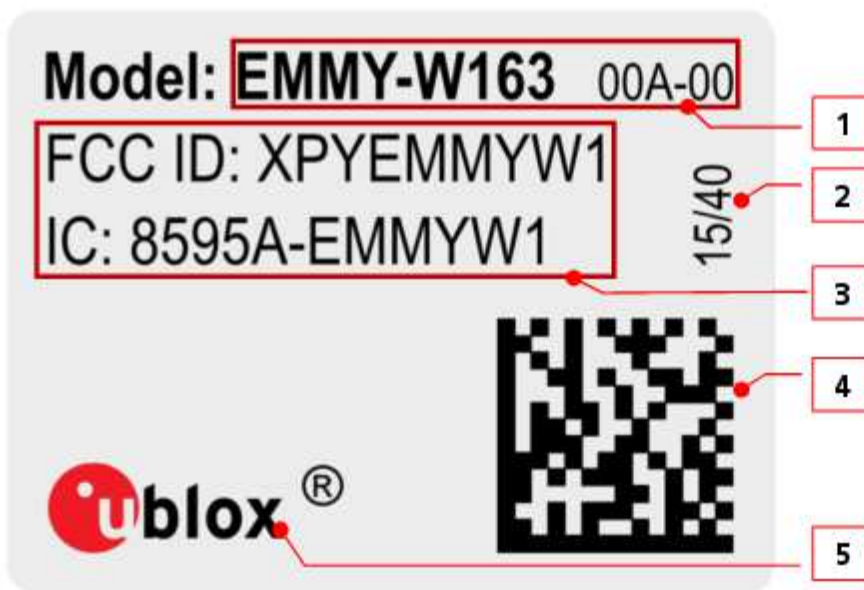

Figure 16: EMMY-W1 series – Professional grade sample label
Figure 16 illustrates the sample label of the automotive grade (professional grade is similar and differs with respect to product version (1) as mentioned in Table 39) of the EMMY-W1 series and includes: the u-blox logo, product name (model), type number, FCC and IC certification number and date of unit production encoded YY/WW (year/week).